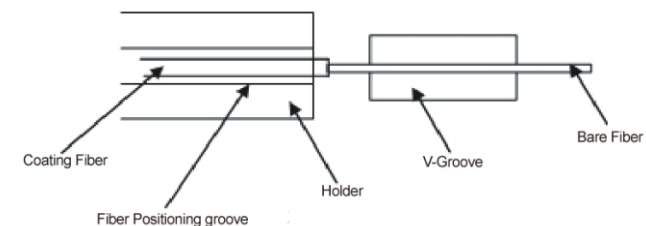

Figure 6-1: Left fiber positioning groove into the left holder
- Open the windshield, check if the fiber holding parts shown in Figure 6-1 has dust or other foreign objects (eg broken fiber, cotton fiber etc.)
- Turn ON the machine, and then refer to Figure 6-1 and Figure 2-2 to install left and right fiber. Please note that when you install fiber, the bare fiber cleaving length should be $13 \pm 0.5\text{mm}$; bare fiber to be placed in the V-groove; fiber holder to firmly press the fiber and naturally straight. Then cover the windshield slightly.